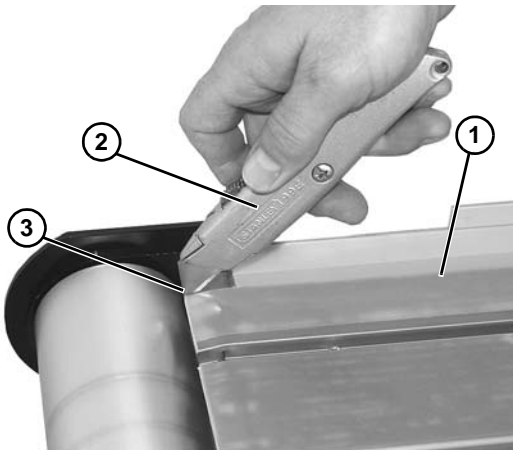

Figure 47
5. Install new wear strip (**Figure 47, item 1**).
6. Using a utility knife (**Figure 47, item 2**), cut out notch in each corner (**Figure 47, item 3**).